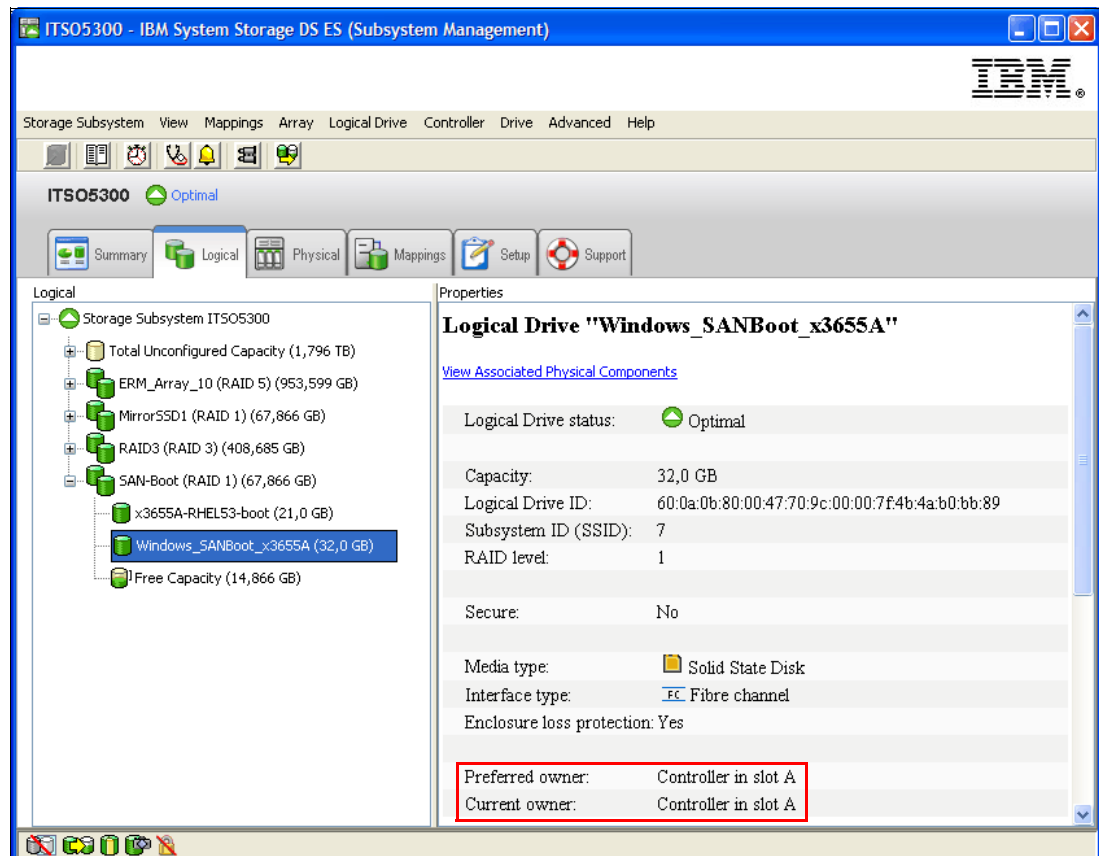

Figure 6-58 Check controller ownership
1. From the Storage Manager Subsystem Management window (Logical view), check which controller currently has the drive ownership of the boot disk for the server. In optimal condition, the preferred and current controller must be the same (Figure 6-58).